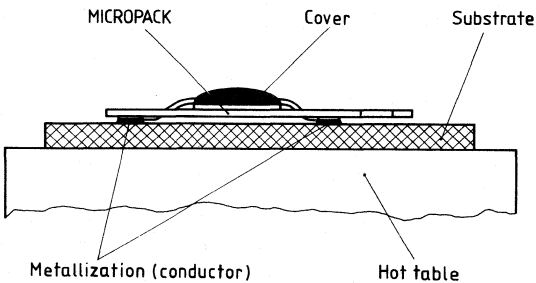

Figure 3
a) For prototypes and small quantities (up to approximately 50.0 items/y) we suggest hot-table soldering (figure 3).